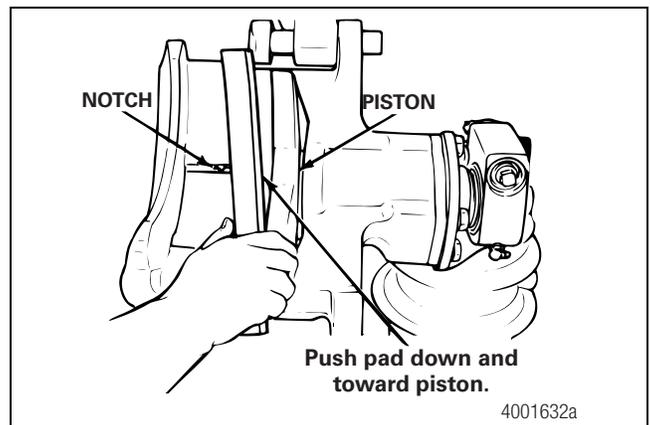
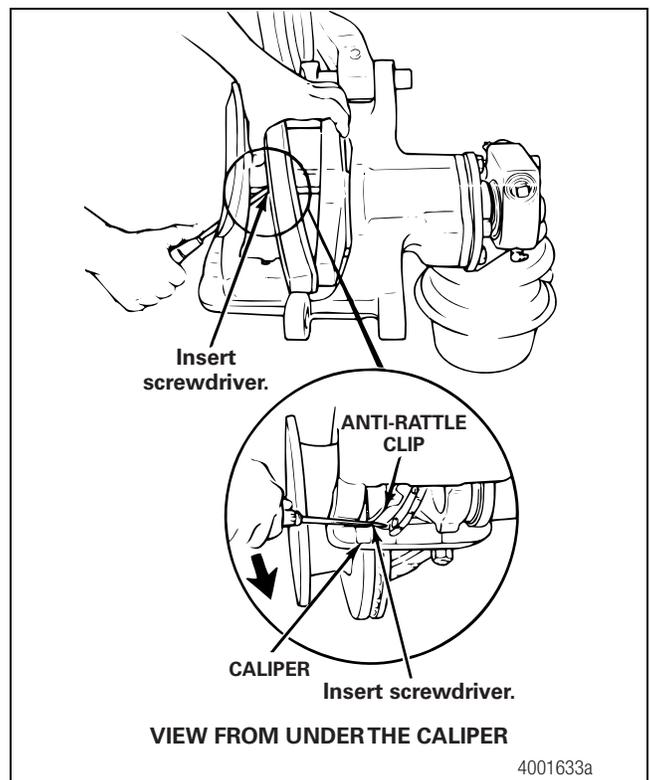

Figure 10.13
Figure 10.14
2. Install the inboard pad first. Fit the shoe tab into the notches in the caliper. Push DOWN on the edge of the pad to compress the clip and slide the pad against the piston. Figure 10.13. If necessary, use a screwdriver to compress the clip while you slide the pad against the piston. Figure 10.14.